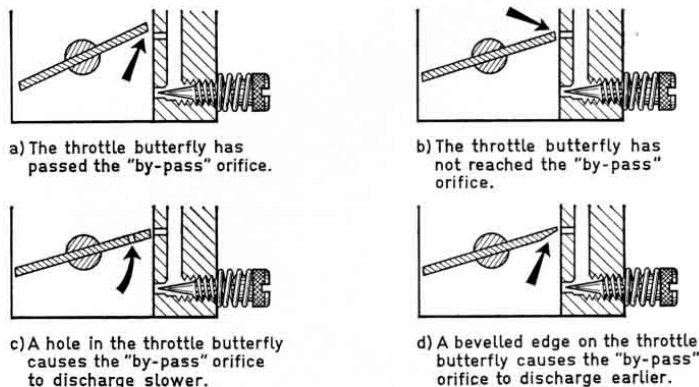

Fig. 18 Throttle butterfly and by-pass orifices
- a) the throttle butterfly has passed the "by-pass" orifice and the main jet has not yet started to operate (fig. 18 a) or
- b) if to the contrary, the throttle butterfly has not yet reached the "by-pass" orifice (fig. 18 b).
If the "by-pass" orifice is desired to operate only with a wider opening of the throttle butterfly a hole drilled in the edge of the throttle butterfly should prove satisfactory. This enables the throttle butterfly to be closed slightly more when idling (fig. 18 c). This arrangement is a satisfactory remedy in case a).
If the "by-pass" orifice is intended to operate with a smaller throttle butterfly opening a small amount should be filed off the lower edge of the throttle butterfly on the side nearest the "by-pass". This brings the edge of the throttle butterfly nearer to the "by-pass" (fig. 18 d). In this manner it is possible to help in case b).